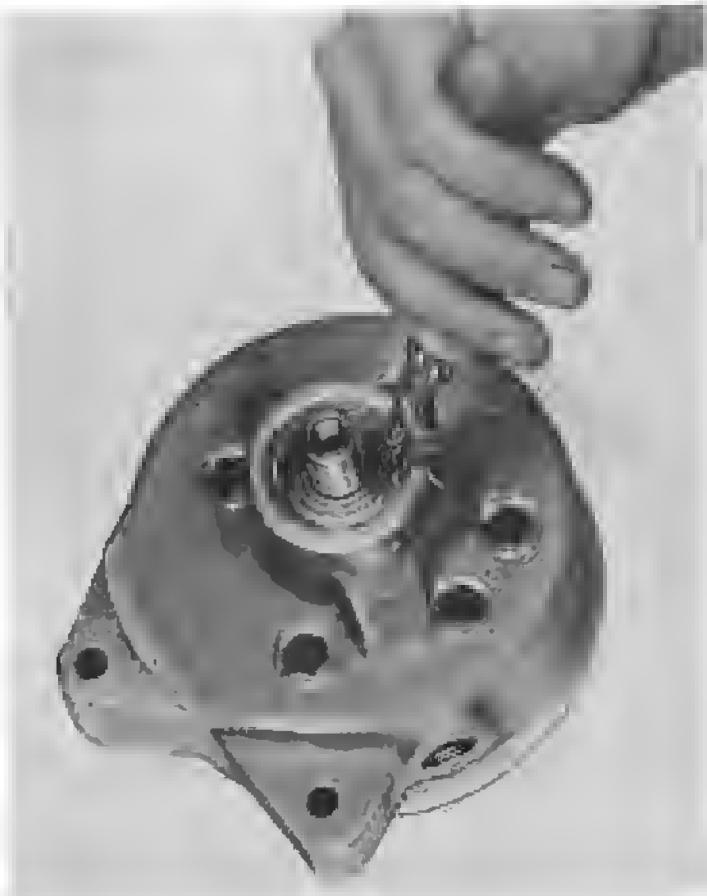

Figure 7 - Removing or Installing Snap Ring and Bearing and Shaft Assembly
12. Remove the snap ring from the bearing end cap with Tru-Arc No. 3 snap ring pliers as shown in Figure 7.